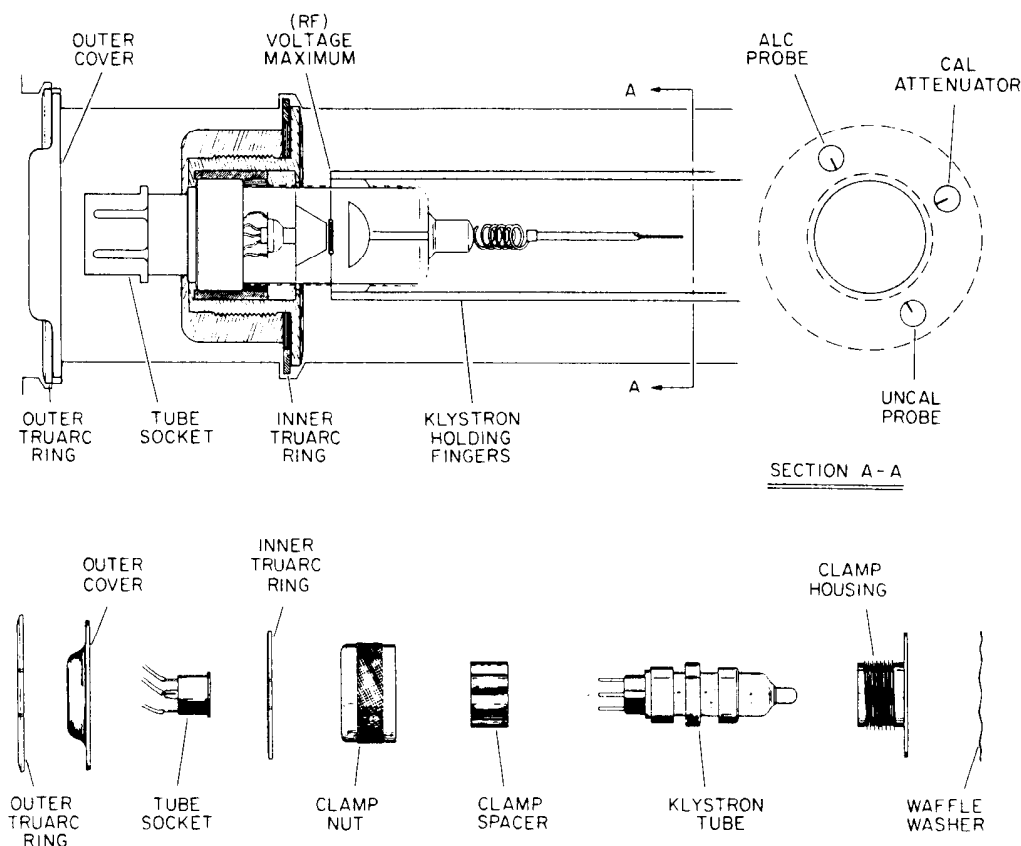

Figure 5-9. Klystron Cavity Assembly, Cutaway View
- Using truarc pliers which are available in a repair kit, HP Part No. 08614-800, remove the outer truarc ring from the outer cover of the klystron cavity (see Figure 5-9).
- f. Unscrew clamp nut, lift out clamp saucer, and remove klystron (see Figure 5-9).